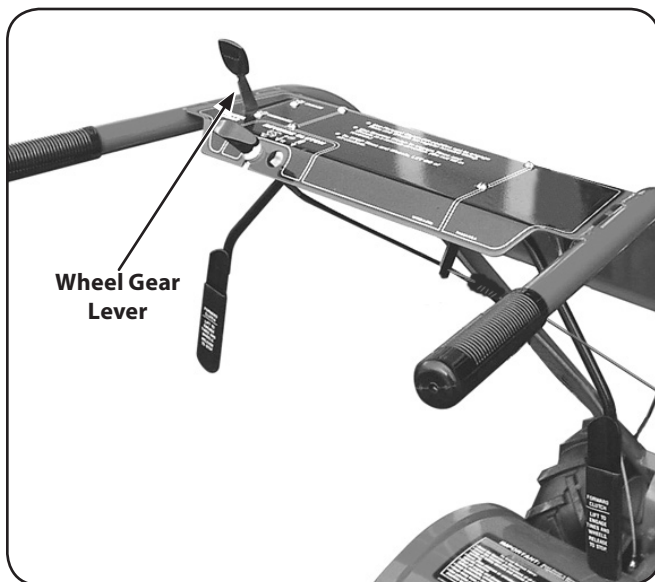

Figure 3-9
1. Insert the Wheel Gear Lever up through the slot in the control panel that is labeled "WHEEL GEAR." See Fig. 3-9.